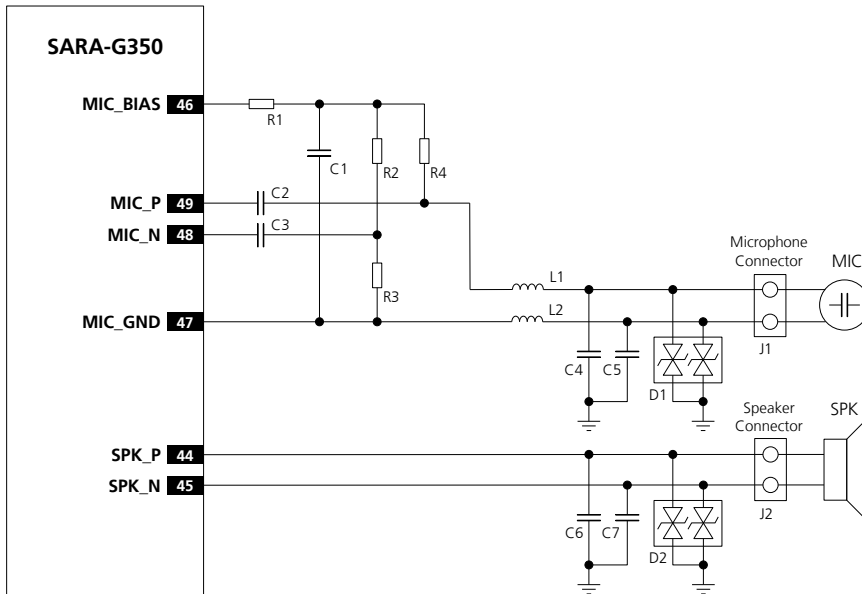

Figure 57: Analog audio interface headset and handset mode application circuit
Figure 57 shows an application circuit for the analog audio interface in headset and handset modes, connecting a 2.2 k Ω electret microphone and a 16 Ω receiver / speaker:
As in the example circuit in Figure 57, follow the general guidelines for the design of an analog audio circuit for both headset and handset modes:
- Provide a proper series capacitor at both MIC_P and MIC_N analog uplink inputs for DC blocking (as the C2 and C3 100 nF Murata GRM155R71C104K capacitors in Figure 57). This provides a high-pass filter for the microphone DC bias with proper cut-off frequency according to the value of the resistors of the microphone supply circuit. Then connect the signal lines to the microphone.
- Mount an 82 nH series inductor with self resonance frequency \sim 1 GHz (e.g. Murata LQG15HS82NJ02) on each microphone line (L1 and L2 inductors in Figure 57).
- Mount a 27 pF bypass capacitor (e.g. Murata GRM1555C1H270J) from each microphone line to solid ground plane (C4 and C5 capacitors in Figure 57).
- Mount a 27 pF bypass capacitor (e.g. Murata GRM1555C1H270J) from each speaker line to solid ground plane (C6 and C7 capacitors in Figure 57).
- Provide additional ESD protection (e.g. EPCOS CA05P4S14THSG varistor array) if the analog audio lines will be externally accessible on the application device, according to EMC/ESD requirements of the custom application. Mount the protection close to an accessible point of the line (D1 and D2 in Figure 57).